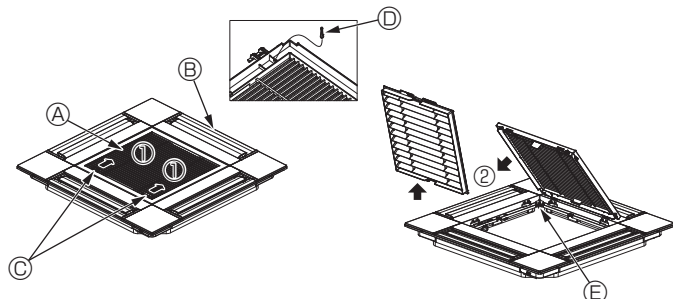
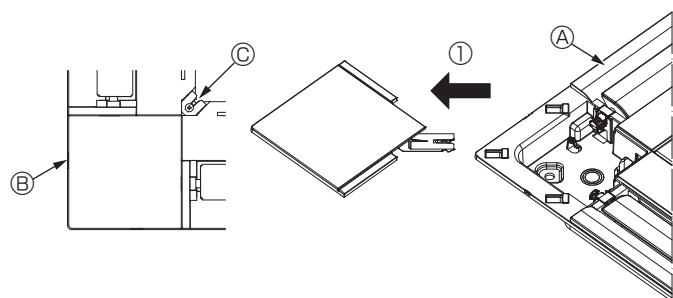

Fig. 5-3
Fig. 5-4
5.3.1. Removing the intake grille (Fig. 5-3)
- Slide the levers in the direction indicated by the arrow ① to open the intake grille.
- With the intake grille in the "open" position, remove the hinge of the intake grille from the grille as indicated by the arrow ②.
5.3.2. Removing the corner panel (Fig. 5-4)
- Remove the screw from the corner of the corner panel. Slide the corner panel as indicated by the arrow ① to remove the corner panel.